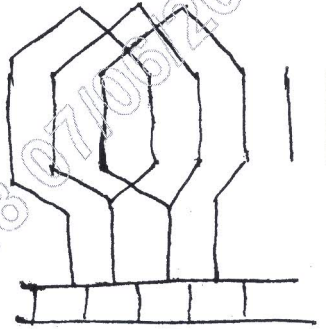

Fig.Q8
- 8 a. Fig.Q8 shows the lap winding of a dc machine. Write prompt and response columns to obtain the winding. (10 Marks)